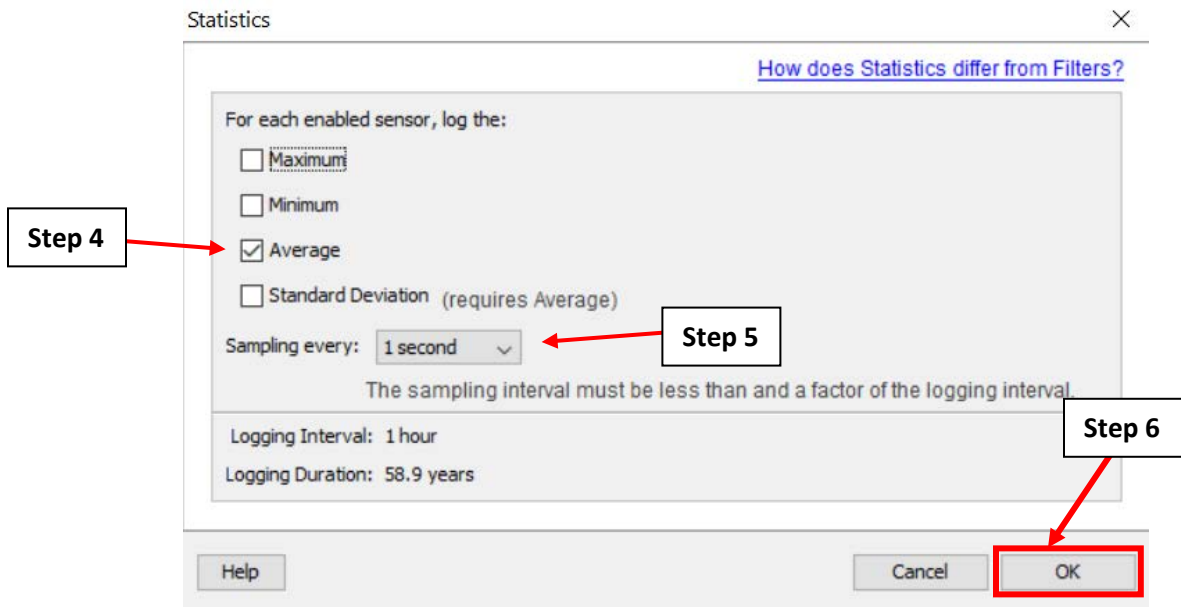

Figure A.12.7: Setting the sampling rate in the Statistics pop-up window.
4. Following Figure A.12.7, select the checkbox labeled “Average” and uncheck the other boxes.